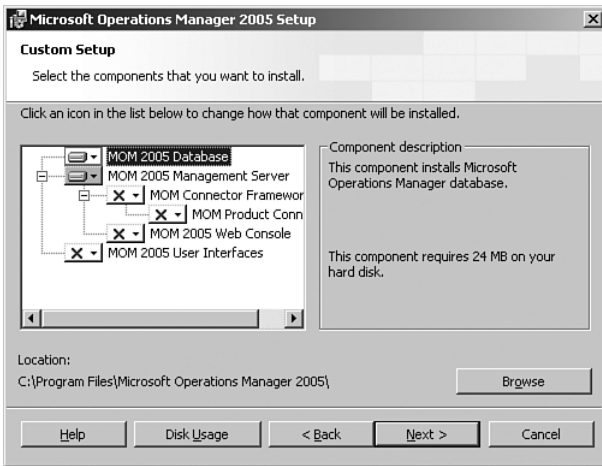

FIGURE 10.8 Configuring Setup for the database only.
1. On the active node (Evergreen1), run setup.exe, specifying only the installation of the MOM 2005 database. Figure 10.8 shows the component screen with the MOM 2005 database selected.